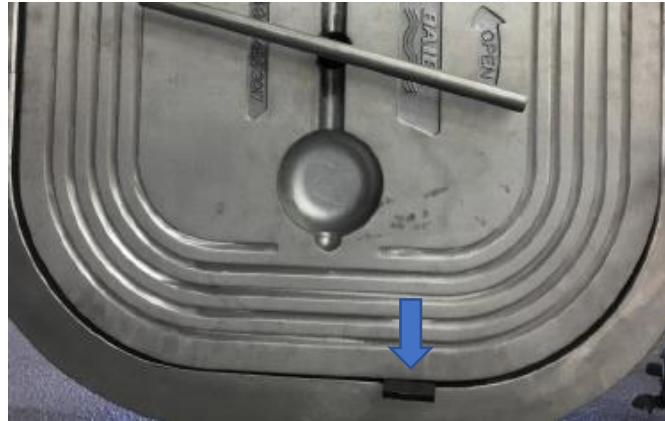

Figure 3
- i. Follow Horizontal Position Installation, except, prior to torquing the four Allen head cap bolts, wedge a shim material approximately ¼” thick between the hatch and the deck ring to keep the hatch centered and minimize sagging, (see figure 3).